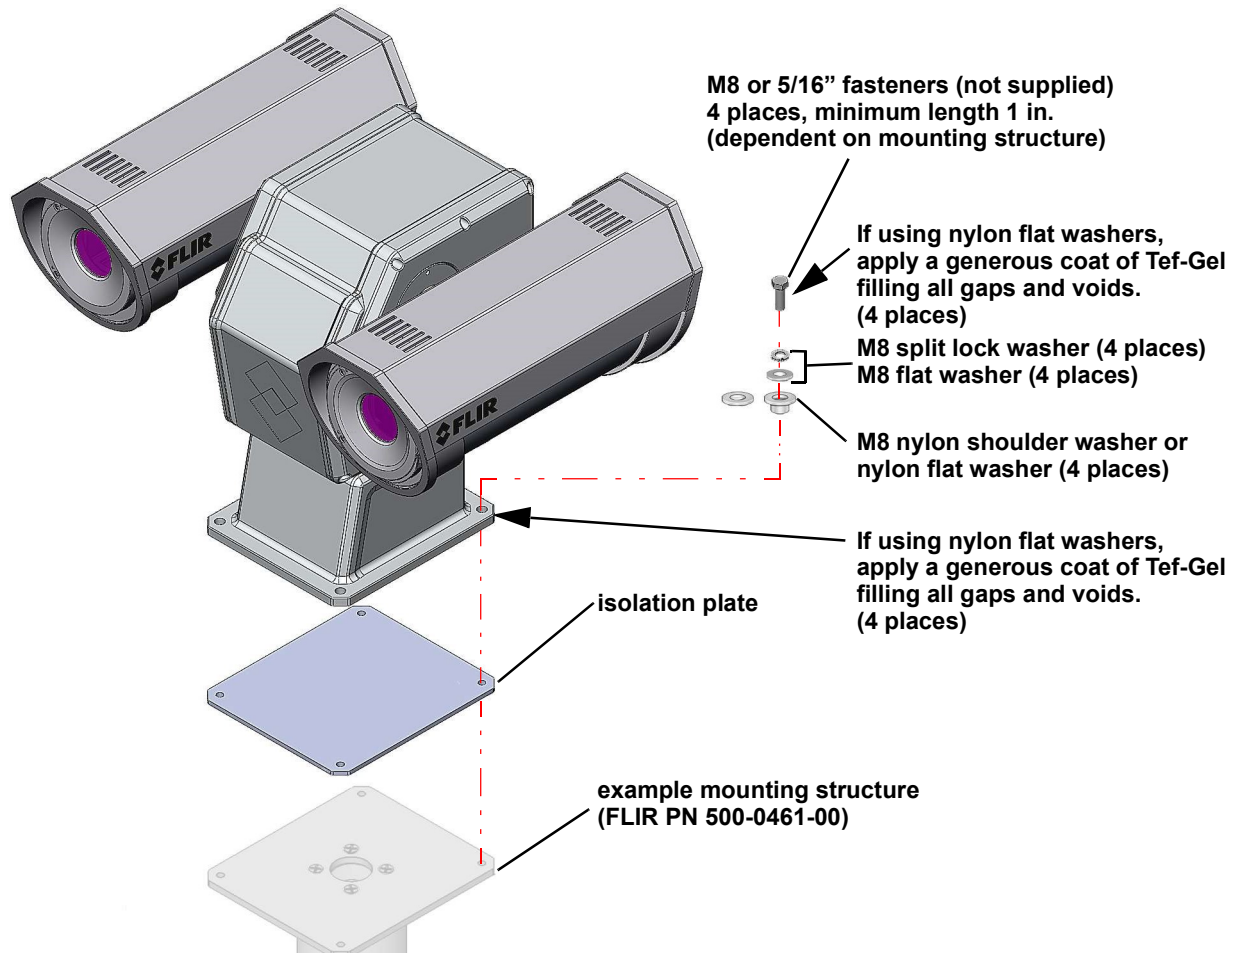

Figure 1-3: PT-Series HD Galvanic Isolation Kit (PN 4204960)
- Step 1 Determine the correct positioning of the isolation plate (See Figure 1-3 on page 11).